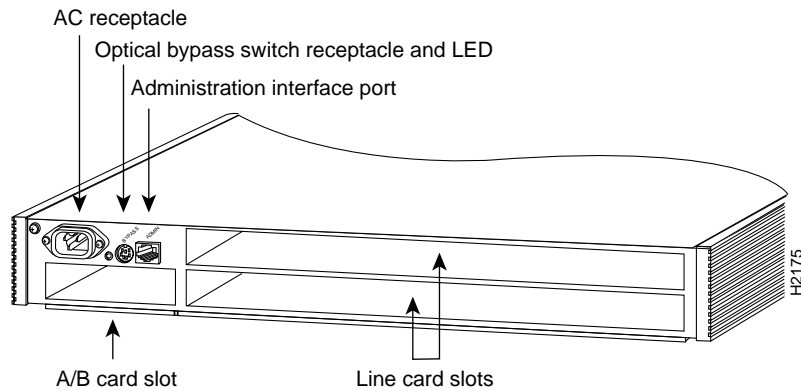
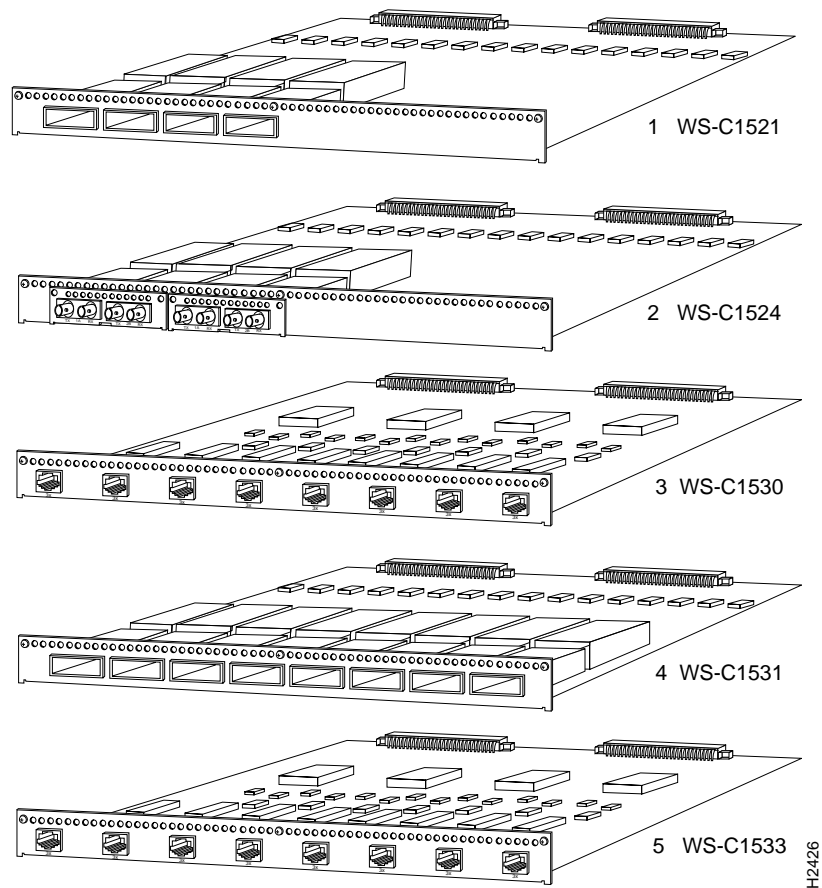

Figure 1-5 CDDI/FDDI Workgroup Concentrator—Rear-Panel View
Figure 1-7 CDDI and FDDI Line Cards
The rear panel has three slots: one for A/B port cards, and two for line cards. The A/B port card slot is for an optional CDDI or FDDI A/B port card. The line card slots each accommodate a line card with from four to eight M ports for connecting to CDDI or FDDI A, B, or slave (S) ports. There is an AC power receptacle, an optical bypass switch connector and LED, and an EIA/TIA-232 port for the admin. interface. (See Figure 1-5.)
The line card slots (see Figure 1-5) support the following optional CDDI and FDDI line cards, which are shown in Figure 1-7. The appendix “Installing and Removing Port and Line Cards” contains procedures for installing and removing the line cards.
- WS-X1521—Four-port multimode FDDI (See 1 in Figure 1-7.)
- WS-X1524—Four-port single-mode FDDI (See 2 in Figure 1-7.)
- WS-X1530—Eight-port CDDI/MLT-2 (See 3 in Figure 1-7.)
- WS-X1531—Eight-port multimode FDDI (See 4 in Figure 1-7.)
- WS-X1533—Eight-port CDDI/MLT-3 (See 5 in Figure 1-7.)